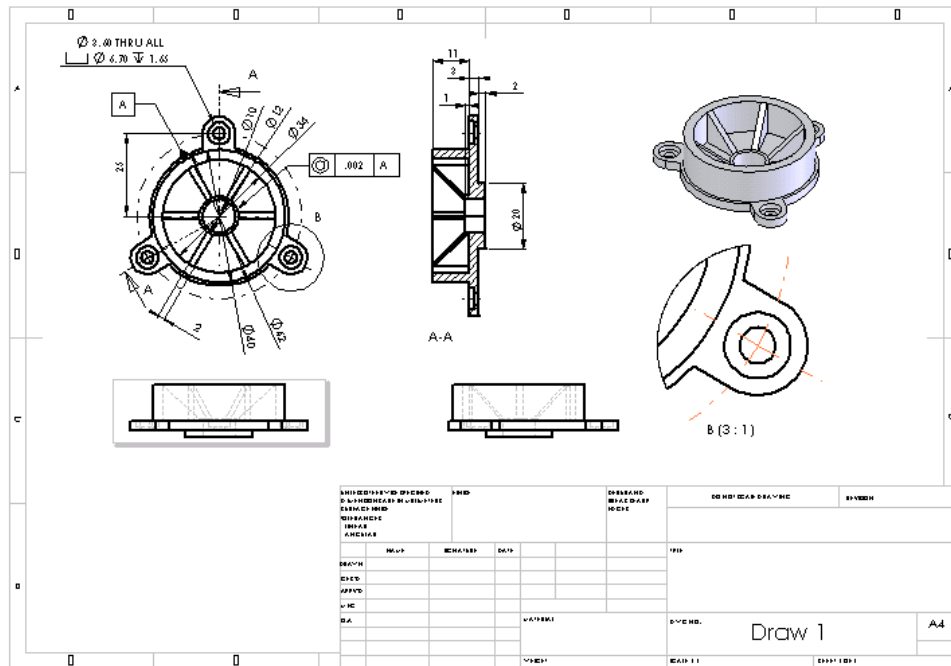

Figure 13-38 Final drawing sheet
- Change the model display state of the drawing views, refer to Figure 13-38.
Figure 13-38 shows the final drawing sheet after changing the display view settings.